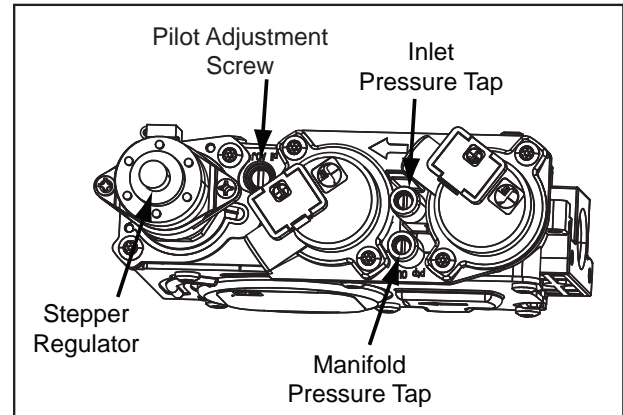

Figure 31: Gas Valve Diagram
- a) Remove the existing stepper motor using a T20 screwdriver (see Figure 31).
10. Light the pilot and recheck for leaks in the aluminum pilot line. If a leak is evident, contact your ENVIRO dealer for a pilot line replacement. **WARNING: DO NOT ATTEMPT TO FIX THIS LINE, IT MUST BE REPLACED IF DAMAGED.** The pilot should properly cover the flame sensor. If adjustment is necessary, turn the adjustment screw in the valve (see Figure 31) clockwise to decrease and counter-clockwise to increase until the correct flame is achieved (see Figure 16).